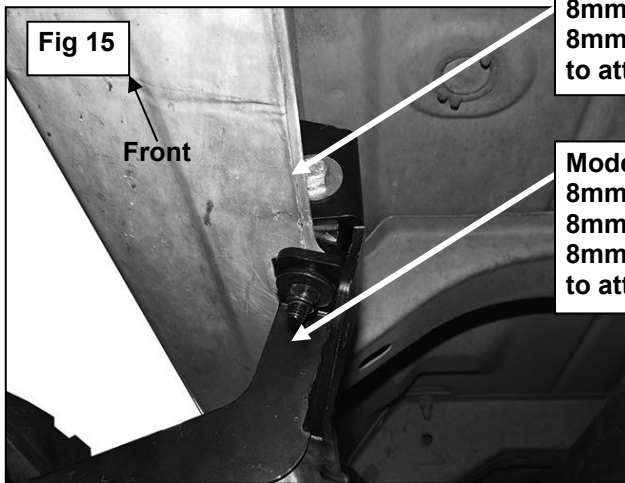

Fig 15
10. Line up the side tab on the Lower Bracket with the threaded hole in the side of the Upper Bracket. Attach the Lower Bracket to the Upper Bracket with (1) 8mm x 25mm Hex Bolt, (1) 8mm Lock Washer and (1) 8mm Flat Washer, (**Figure 15**). Leave loose at this time.Repeat **Steps 1—3** for the (2) remaining passenger side Bracket installations.